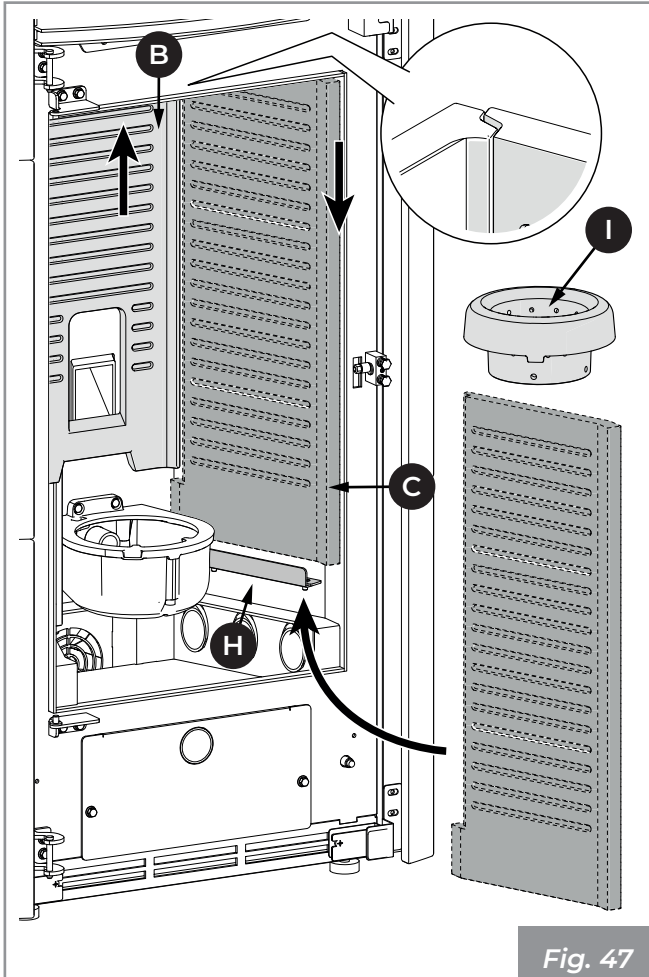

Fig. 47
- Position the right refractory wall **(C)** in the combustion chamber **(Fig. 47)** by slightly lifting the bottom wall **(B)**.